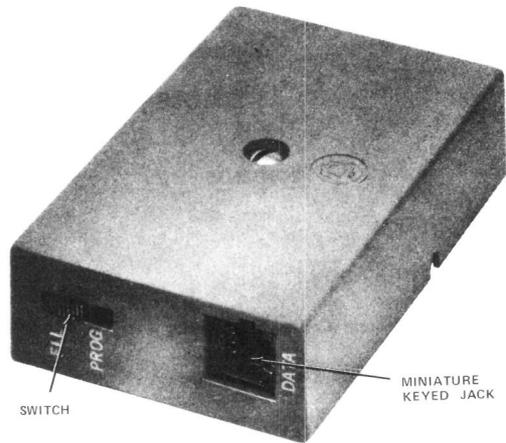
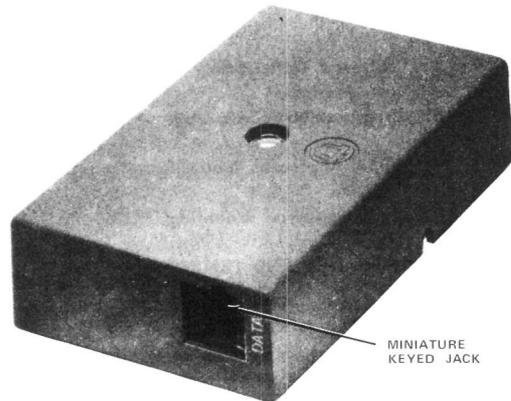

Fig. 1—97A-Type Connecting Block
Fig. 2—97B Connecting Block
2.01 The 97A-type, and 97B connecting blocks provide a means for connecting registered data equipment to the switched network. The 97A-type (Fig. 1) is for use with data equipment registered as either fixed loss loop type or programmed and is also referred to as the universal data jack. The 97B (Fig. 2) connecting block is for use with data equipment registered as programmed and is also referred to as the programmed data jack.